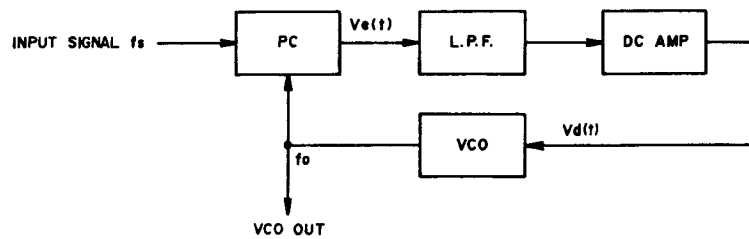

Fig. 9 PLL Circuit
PLL circuit is a kind of feedback circuit and is comprised of a Phase Comparator (PC), a Low Pass Filter (LPF), a Direct Current Amplifier (DC Amp), and a Voltage Control Oscillator (VCO) as shown in Fig. 9. The PC compares input signal  $F_s$  and VCO oscillator output and generates the difference in signal voltage  $V_e(t)$  proportionately to this phase deviation. This  $V_e(t)$  passes LPF and the DC Amp. and becomes control voltage. This control voltage supplied to VCO and VCO oscillation frequency is DC controlled. When there is no input signal  $F_s$ , because there is also no  $V_e(t)$ , control voltage  $V_d(t)$  becomes zero, and VCO maintains a \* free-running oscillation frequency. When a signal enters, VCO oscillation frequency  $F_o$  is controlled to narrow the difference between  $F_s$  by means of feedback as described above, and the PLL circuit assumes a synchronous condition. This is referred to as input signal lock. (In case the difference between  $F_o$  and  $F_s$  is too large, the differential signal frequency becomes high and is reduced at the LPF.
Accordingly, for composite stereo signal demodulation, the sub carrier used for demodulation at the transmitter must be the same uniform 38 kHz signal as the frequency and phase. If the 38 kHz waveform is asymmetrical, channel separation will become poor. At the PLL employed MPX stereo demodulator circuit, as shown in Fig. 9, first a 76 kHz signal is oscillated and when this passes the divider, a symmetrical 38 kHz signal is obtained.